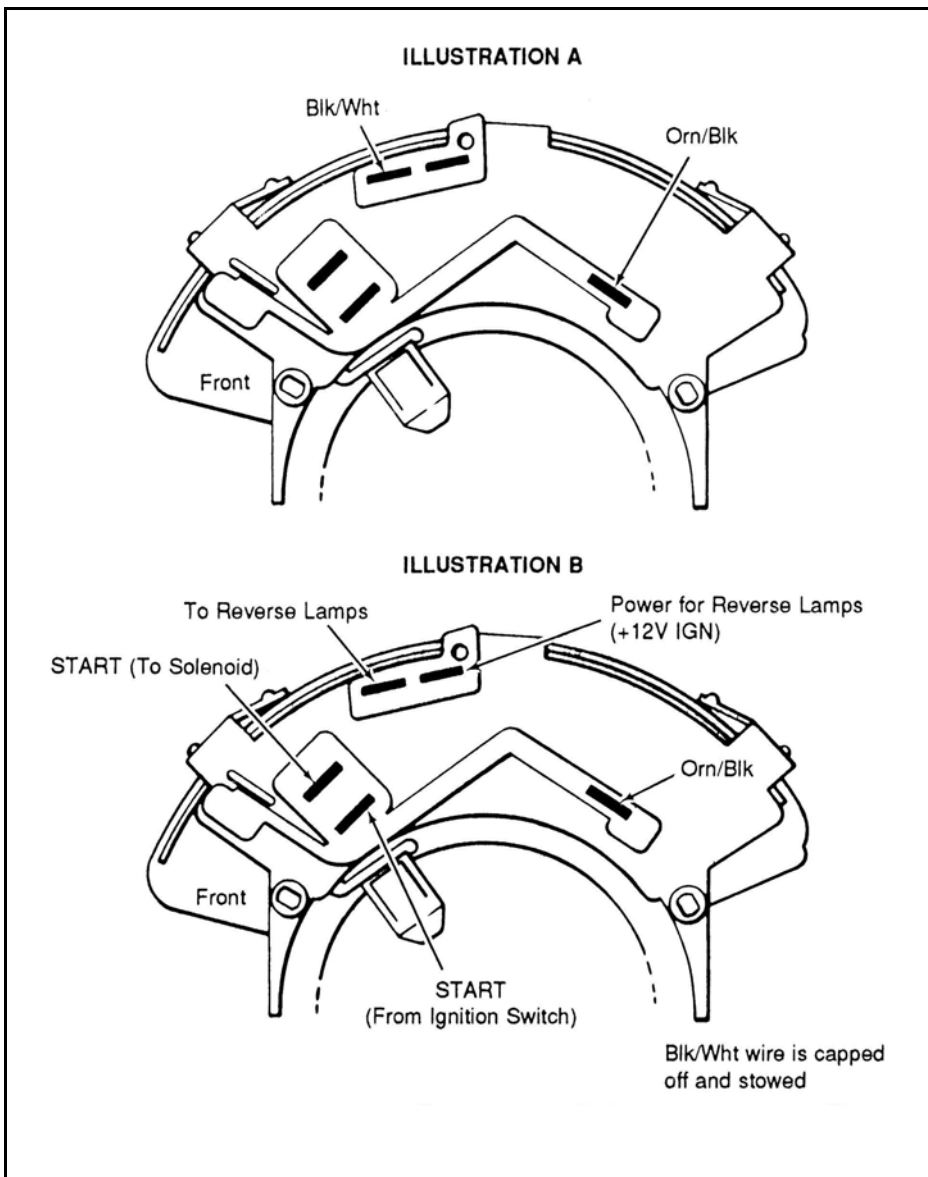

FIGURE 6.4 Gear Indicator Switch
- D.1. The recommended switch is a combination reverse light, gear indicator **AND** neutral safety switch. You may use it for all these purposes if you wire it **EXACTLY** as shown in **Figure 6.4 Illustration B**
- D.2. If you are going to use the recommended switch as a gear indicator for the computers benefit **ONLY**, then you will wire it as shown in **Figure 6.4 Illustration A**.